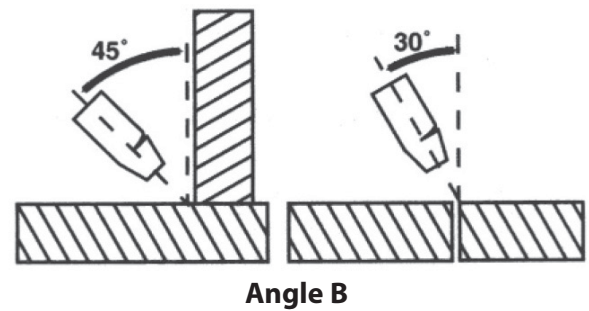

Figure 9. Gun Position, Angle B
2. Angle B (Figure 9) can be varied for two reasons: to improve the ability to see the arc in relation to the weld puddle and to direct the force of the arc.